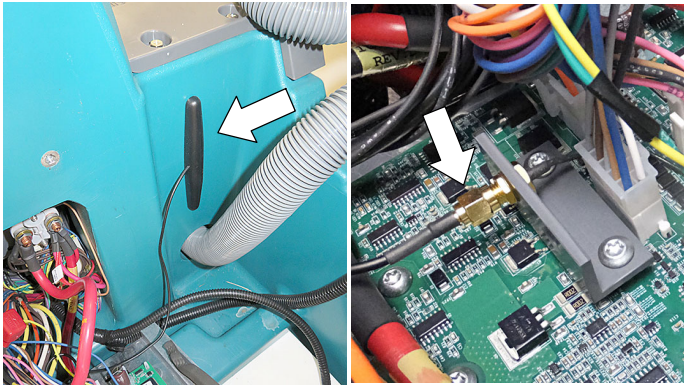

Fig. 6
- Adhere the antenna to the machine as shown. Connect the antenna wire to the circuit board antenna connector as shown (Figure 6). Secure the antenna wire with a cable-tie.